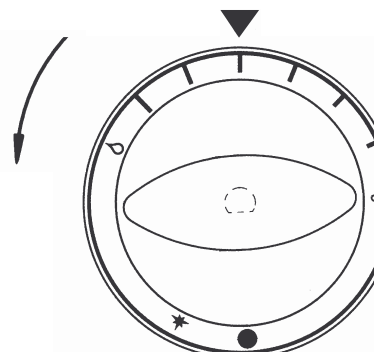

Fig. 3
remove the panel (12). Open the burner's air regulating bush completely (24) and change the nozzle (27), if necessary unscrew the gas connection pipe fitting (3), unscrew the nozzle holder (17) and change the nozzle (27). Put everything back in place; place the burner air regulating bush (24) at the distance specified ("A") in the Technical Data table according to the type of gas (Fig. 3).
- Changing the pilot nozzle (23):
Turn the knob again to choose the temperature you want (fig. 3).